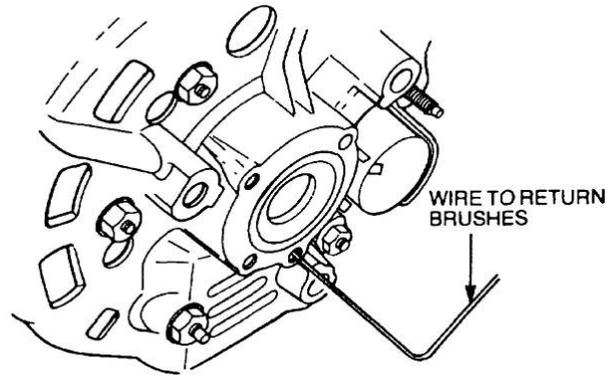

Figure 327 Installation of the Rear Cover
- e. Insert a piece of wire through the rear cover to hold the brushes back in the holder and install the rotor and front cover (Figure 327). Remove the wire when the rotor is fully installed. Check that the rear bearing and locking ring engage fully.